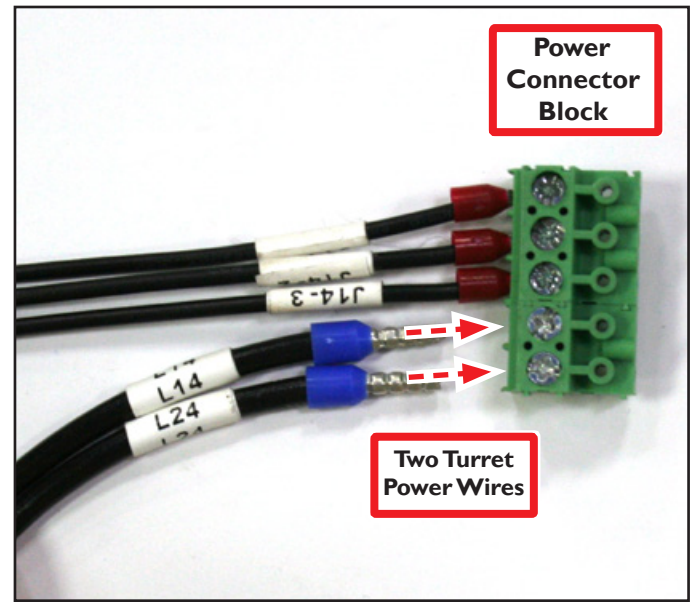

Figure 16
13. Identify the Turret Harness' Power Connector Block and Encoder Connector Block (see **Figure 16**).
15. Locate the two black Turret Power Wires (included), L14 and L24 (see **Figure 16**).
16. Loosen lock screws for two open positions in the Power Connector Block and connect wires as shown in **Figure 16**; re-tighten screws snugly.